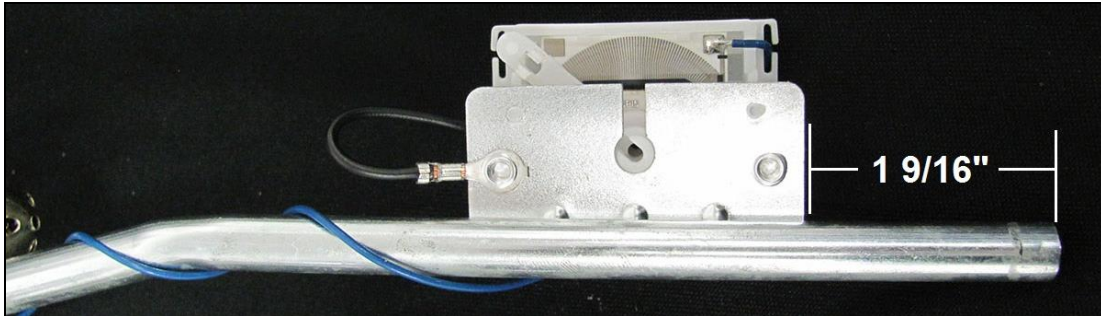

Figure 10
1. Un-snap the fuel level sender (FLS) float arm from the hanger assembly. Cut off and de-burr the 3/8" supply tube at a distance of 1-9/16" from the (FLS) bracket edge (**Figure 10**).